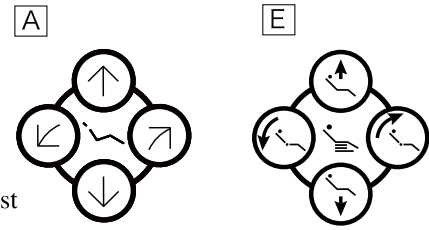

Fig.3-7 Chair Manual Control Switches
⑤ Chair Manual Control Switches (Fig.3-7) [A] [E]